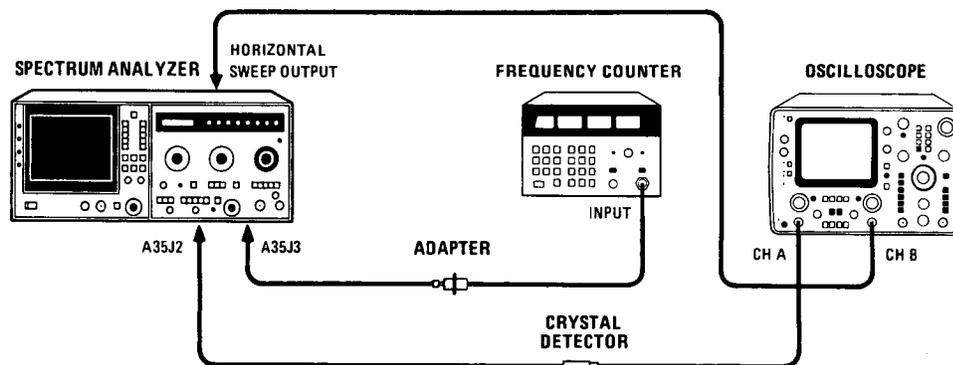

Figure 5-32. Second Converter Adjustment Test Setup
1. Set LINE switch OFF, disconnect power cord, connect equipment as shown in Figure 5-32, and remove HP 8569B bottom cover.